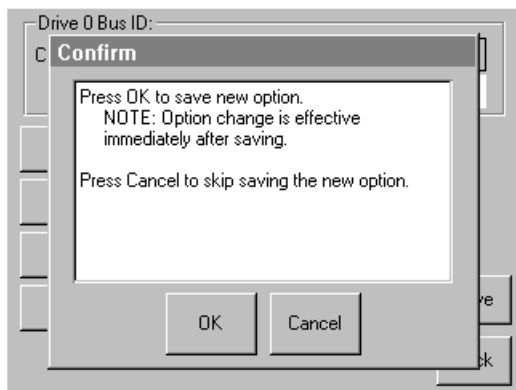

Figure 22 SCSI ID confirmation screen
- Touch the **Save** option to confirm your request. A confirmation screen is displayed (see Figure 22).